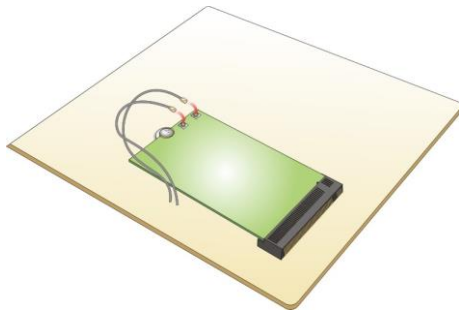

Figure 3-8: Connecting RF Cables
Step 5: Connect the two RF cables to the antenna connectors on the WLAN module (Figure 3-8).